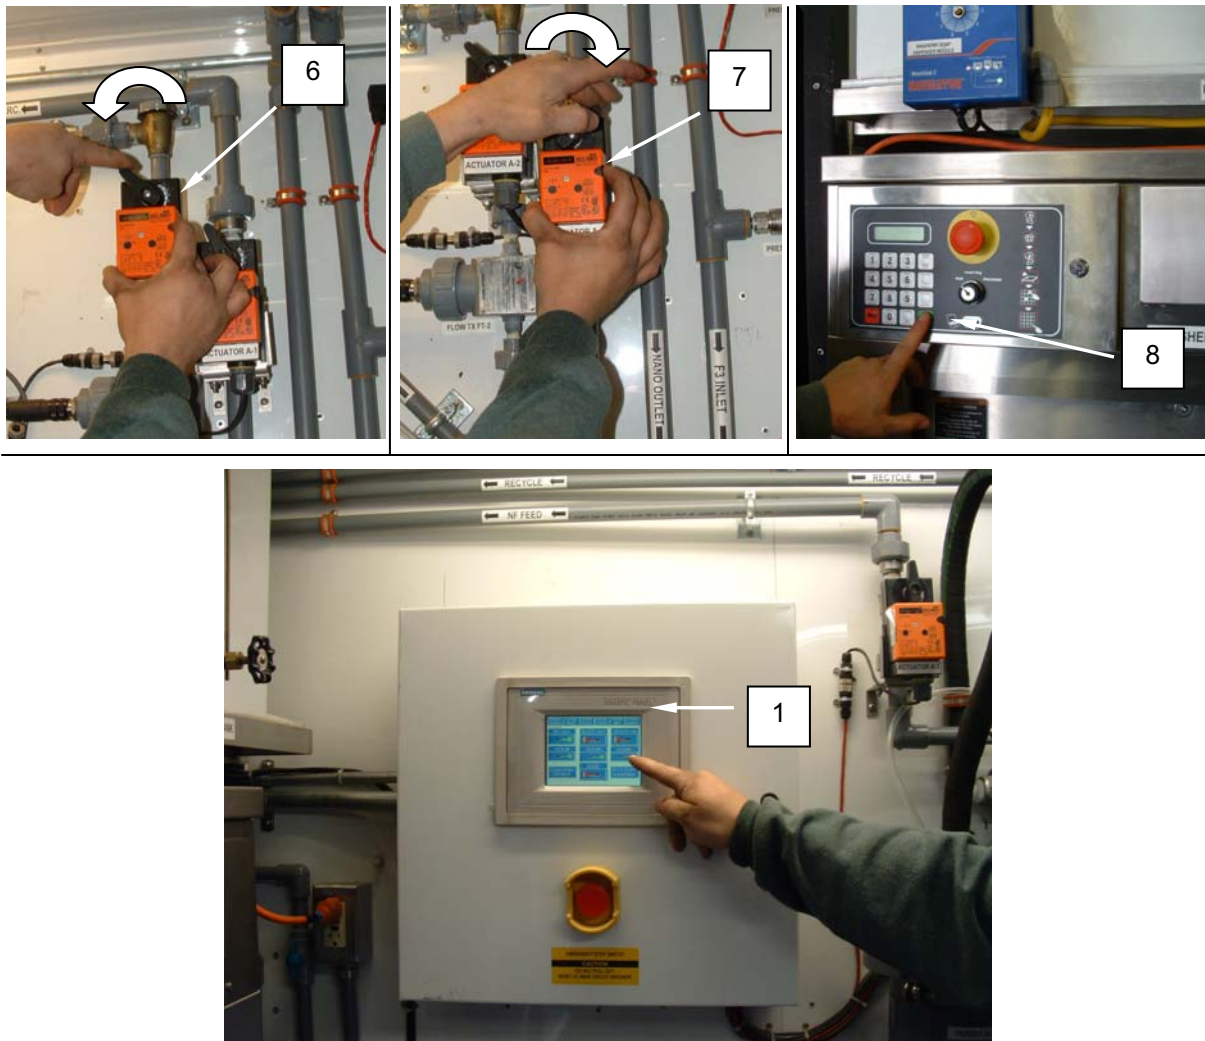

Figure 3. Water Treatment System Flush.
6. Press the valve release and manually open Actuator A-3 (**Figure 3, Item 6**).
7. Press the valve release and manually close Actuator A-4 (**Figure 3, Item 7**).
8. Enter cycle 31 on either one of the washers and press Start (**Figure 3, Item 8**).
9. Monitor the P-3 loop flow at the PLC (**Figure 3, Item 1**) as it runs through the cycle. When Pump P-3 stops or sight glass on Nanofilter Feed tank is full, switch Pump P-4 ON at the PLC. Pump P-4 will start after a two-minute delay. (The entire cycle will require approximately 15-20 minutes)
10. Monitor system as it continues to run through the cycle. When Pump P-4 stops, switch pump P-4 OFF at the PLC (**Figure 3, Item 1**).